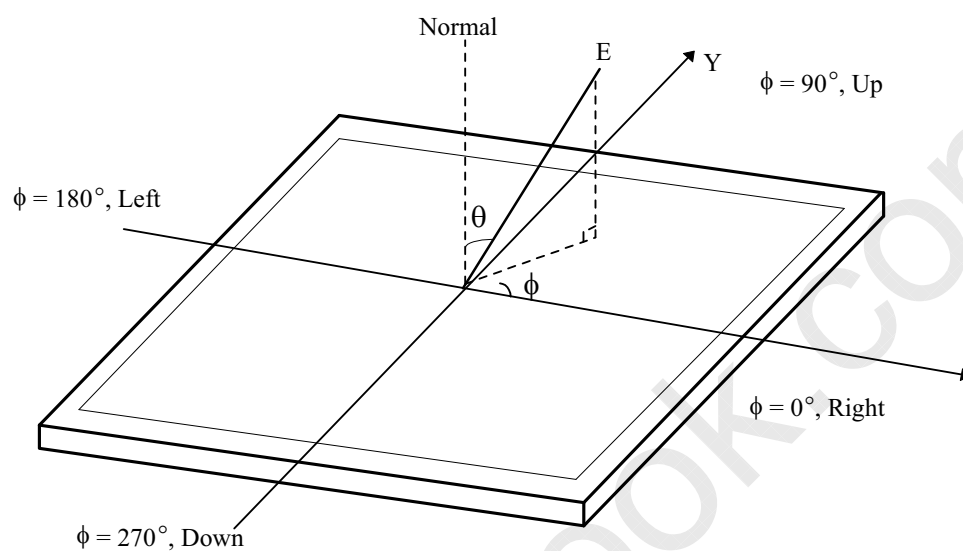

FIG. 13 Viewing Angle
5. Viewing angle is the angle at which the contrast ratio is greater than 10. The angles are determined for the horizontal or x axis and the vertical or y axis with respect to the z axis which is normal to the LCD module surface. For more information, see the FIG. 13.